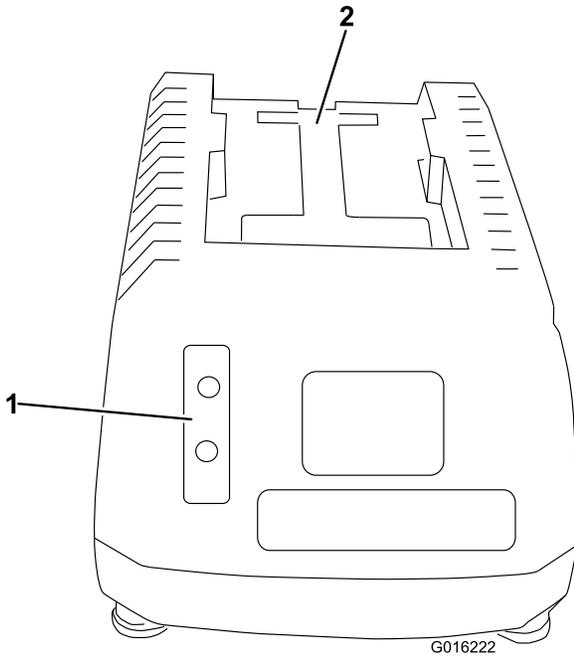
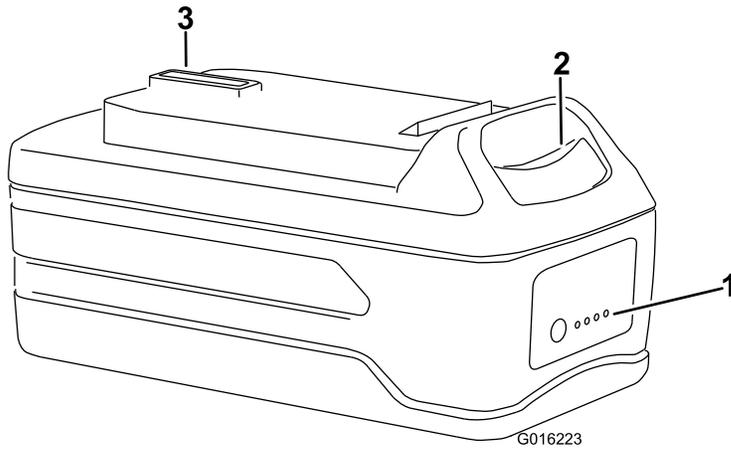

Figure 7
Figure 8
1. Turn the battery upside down and line up the battery terminal with the slot in the charger (Figure 7 and Figure 8).